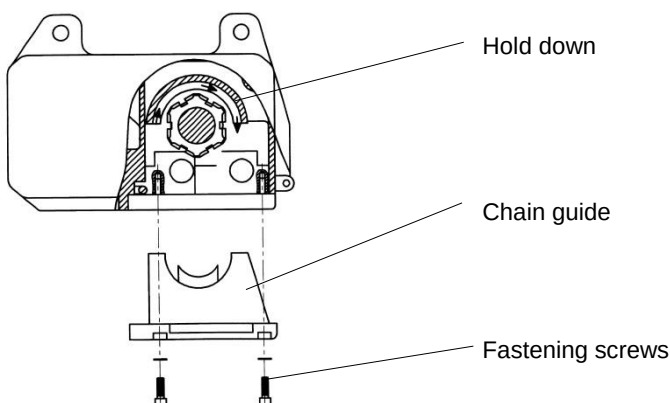

Figure 15: Replacing the load chain
3. Figure 15) of the chain guide, take the chain guide out of the hoist (Figure 14-C) and pull the U-shaped fork back.